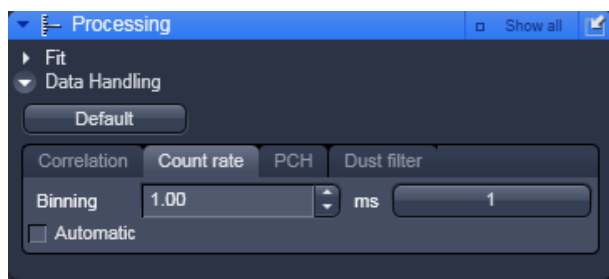

Fig. 54 Count rate panel
- Click on the **Count rate** register to open the **Count rate** panel (Fig. 54). Click any other register to leave the panel.